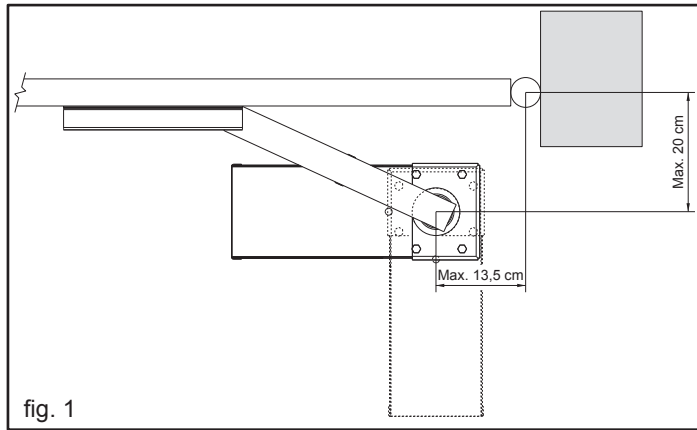
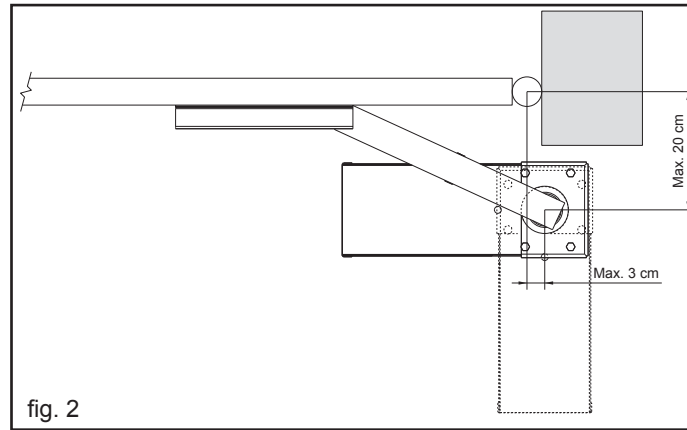

fig. 1
fig. 2
Il braccio BRC18 può essere installato nei limiti di disassamento consentiti (fig. 1 e fig. 2).
The BRC18 arm can be fitted within the permitted misalignment limits (fig. 1 and fig. 2).
- 7) Lay (the concrete) in the hole and carefully align the box which must protrude to 3 mm above the level of the finished flooring (= cover thickness - 2 Figure 2).
Der Arm BRC18 kann innerhalb der zulässigen Nichtfluchtungsgrenzen installiert werden (Abb. 1 und 2).
Le bras BRC18 peut être installé dans les limites de désaxe-ment autorisées (fig. 1 et fig. 2).